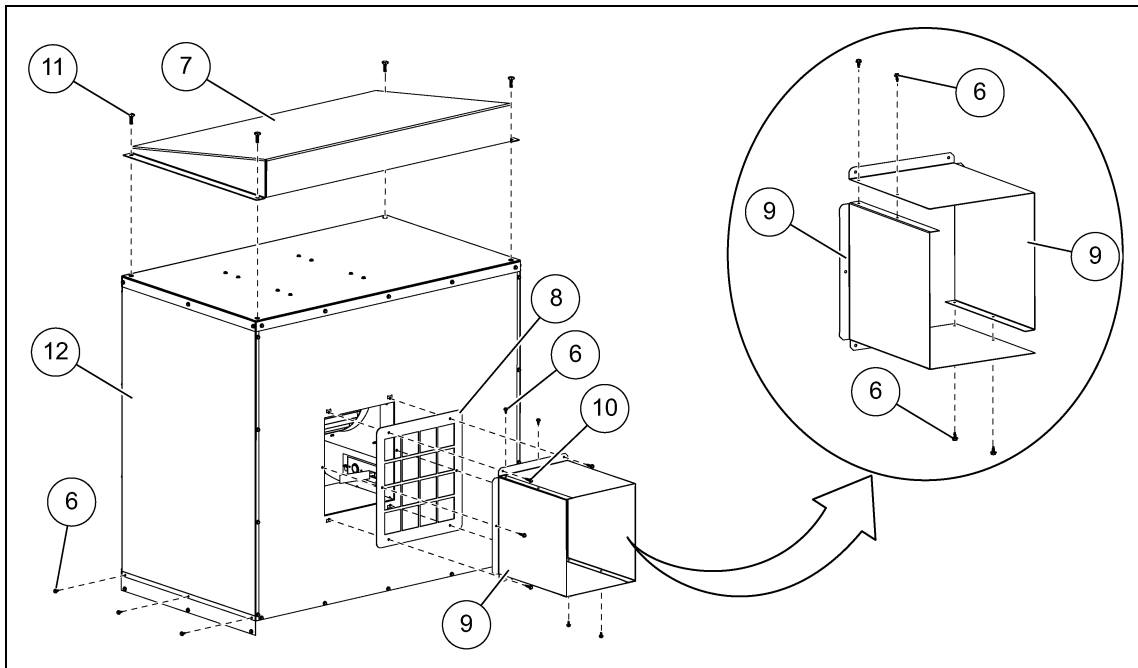

Figure 4
4. Install the top cover (7) to the top of the heater (12) using bolts (11). (See Figure 4.)
5. Assemble the inside ducts (9) together using two self-drilling screws (6) one on the top and bottom where the ducts overlap, close to the flange.
6. Remove the heat outlet cover grid (8), keeping the hardware (10) to use when installing the inside duct (9).
7. Install the inside duct (9) to the heater (12) using the previously removed hardware (10).
8. Remove the bottom three screws (6) from each side of the heater (12) and save to reuse later.